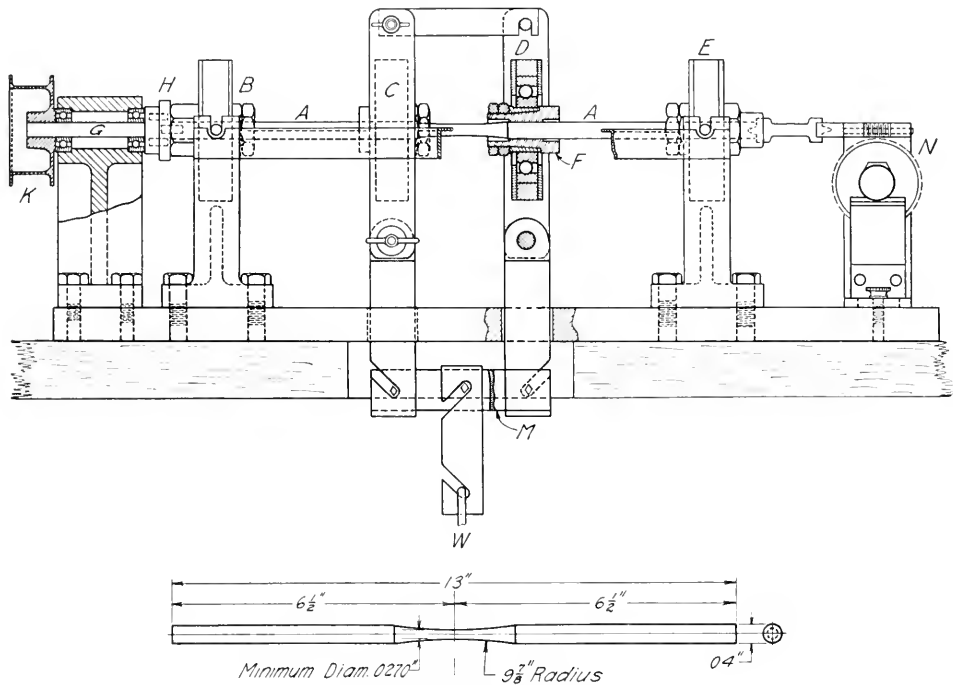
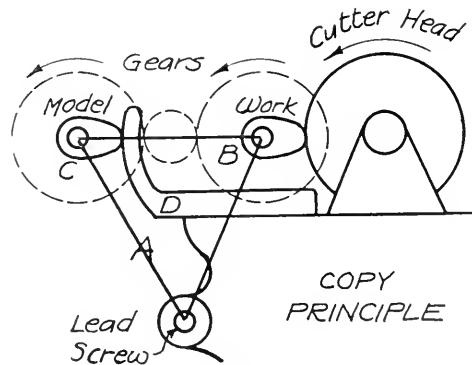

FIGURE 3 (above). FIGURE 4 (below).
FIGURE 4.
*A Brief Summary of Machines and Test Methods Used in the Investigations of the University of Illinois.*—To a testing engineer desirous of performing a large number of long-time fatigue tests of metals, it is obvious that a battery of inexpensive machines simple to handle, and reasonably accurate, are necessary. Fig. 3 shows the diagram of the rotating beam machine used for the basic tests of the investigation at Illinois. Fifteen of these machines are in use. The specimen is shown in Fig. 4. The variation of extreme fibre stress over the middle 0.1 is only 1 percent. The beam is ro-
For turning oval, square, hexagonal and octagonal work, a corresponding die, see Figure 3, is
The turning machine is limited to work which symmetrical about its axis. Unsymmetrical pieces, such as propellers, Queen Anne chair legs, artificial limbs and gun stocks are produced on machines using the copy principle. This principle as applied to the copy lathes may be easily understood from Figure 4. A travelling carriage (A) supports two sets of centers. One set (B) carries the stock to be cut; the other set (C) supports a model of the desired shape to be cut. This model rides up against a shoe (D) which bears the same relation to the model as the cutter head bears to the stock being cut. As the carriage travels along past the cutter head the stock being cut and the model revolve in unison, and the action of the model riding against the shoe causes the carriage to move in and out according to the shape of the model. Since the revolving cutter head bears the same relation to the stock being cut as the shoe bears to the model, the shape of the model is exactly duplicated in the finished piece. By moving the die shoe (D) in or out, the turning can be made proportionally smaller or larger than the model. During the war, special machines embodying the copy principle were con-